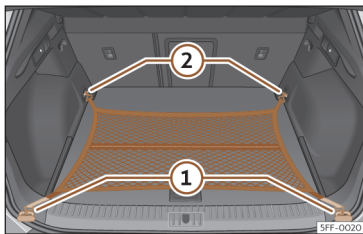

Fig. 180 In the boot: net bag hooked up at floor level.
- Secure the net hooks to the fastening rings >>> Fig. 180 ① and ② >>> ⚠. The bag zip should be facing upwards.